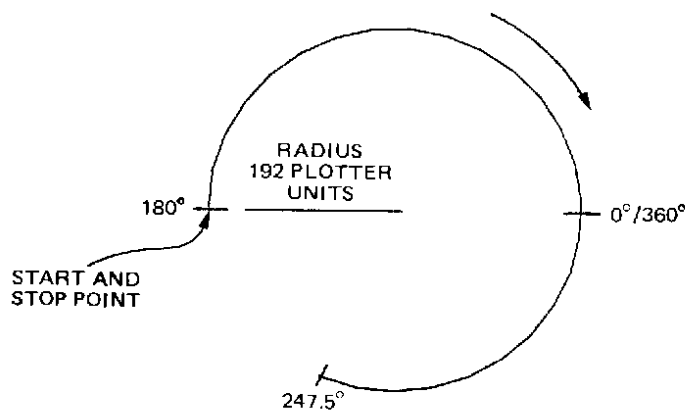

Figure 6-5. Arc From 180° To 247.5°
**Result** Draws an arc in a clockwise direction from the 180° point of origin, through the 0°/360° to the 247.5° point (see Figure 6-5). The plot is shown in Detail B, Figure 6-22.